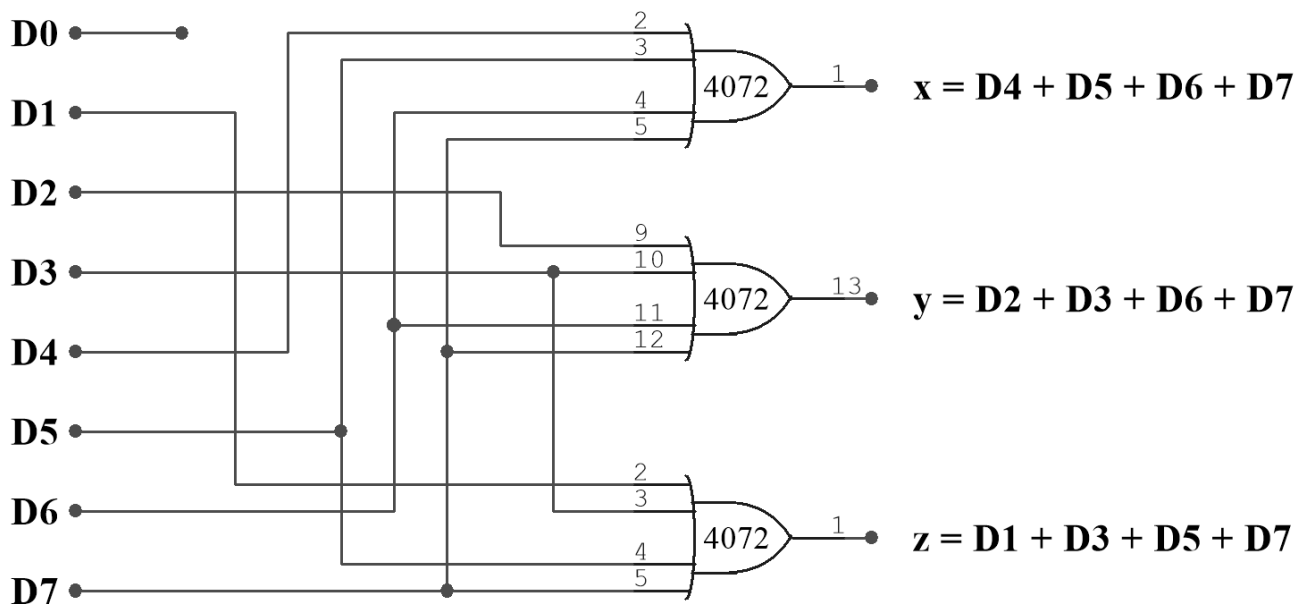

Figure 2.7. Experimental Circuit of 8 to 3 Lines Encoder
1. Make connections as shown in figure 2.7!
3. Connect input 1 or 0 to encoder circuit as shown in figure 2.7 as per truth table!